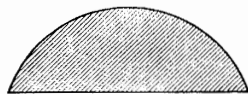

Fig. 80
97. A *Convex* surface is one that curves outwardly. Fig. 80.